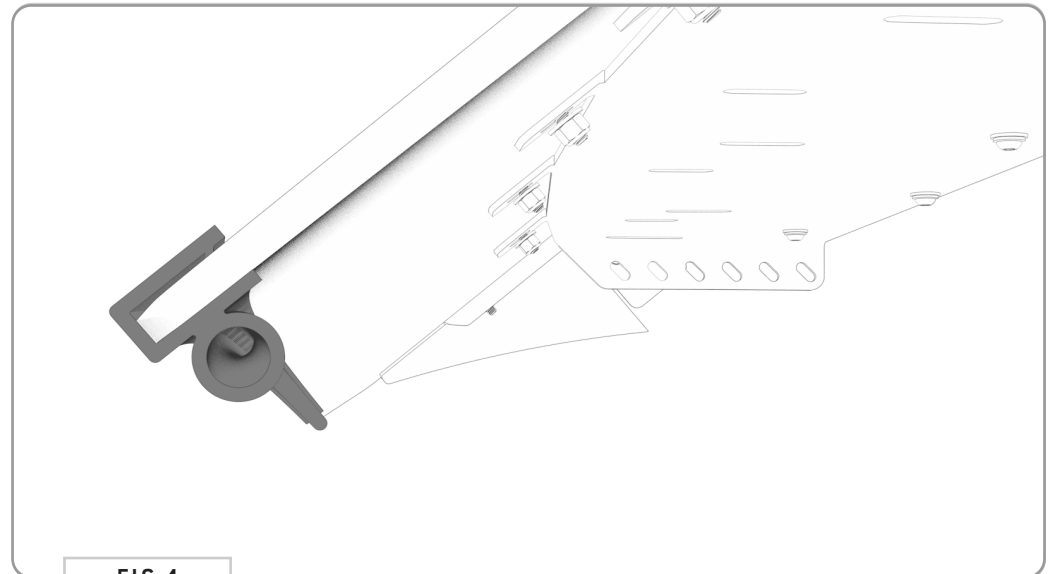

FIG 4
1.4 Fairing Gasket Trim: Attach the **Fairing Gasket Trim** to the **Front Fairing** in the orientation shown in **FIG 4.** Make sure the “bulbed” side is facing inward.